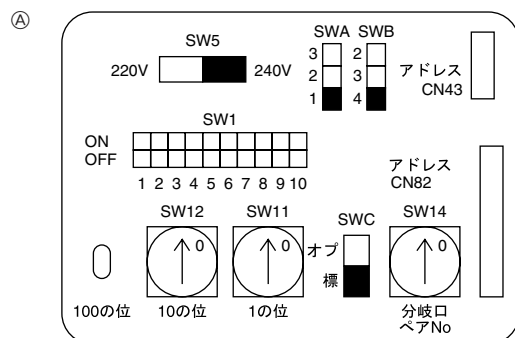

Fig. 4-4
*1 Put the transmission cable earth via the outdoor unit's earth terminal ② to the ground.
4.3. Setting addresses (Fig. 4-4)